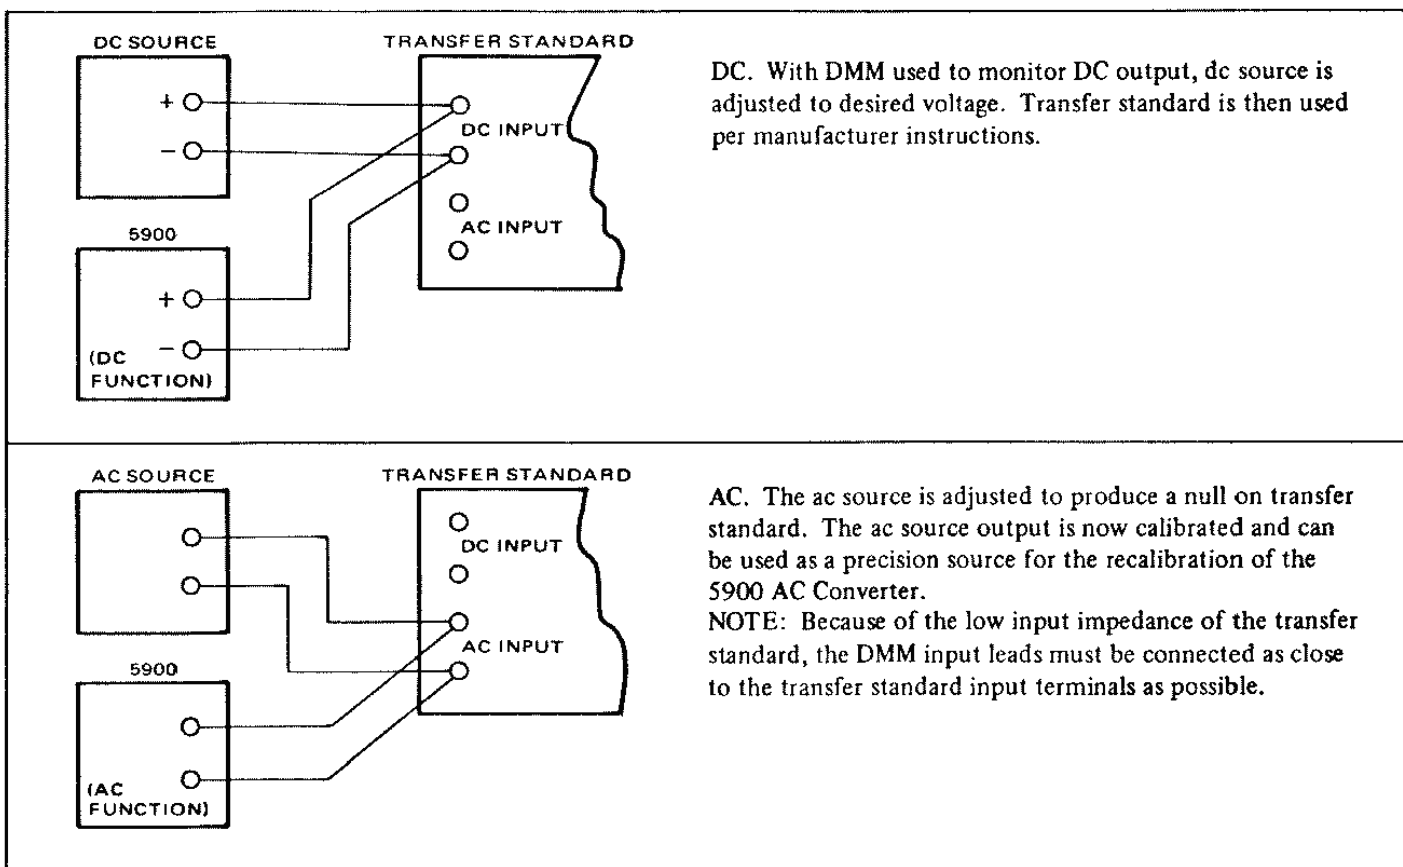

Figure 5.3 - AC Source
5.20 The generation of accurate ac signals for calibrating the ac converter ranges, requires the use of a thermal transfer standard and a precise dc standard as well as a stable ac source. Sufficient accuracy can be obtained by using a dc source and the Model 5900 being calibrated (immediately after the dc calibration has been completed). The circuitry connections are shown in figure 5.3. Information on the use of the transfer standard can be obtained from the operators manual accompanying the standard. The 5900 is used to set the dc source to the desired voltage; the thermal transfer standard is then used to calibrate the output of the ac source. The calibrated ac source is used to calibrate the 5900 ac converter. This procedure is repeated for each range.